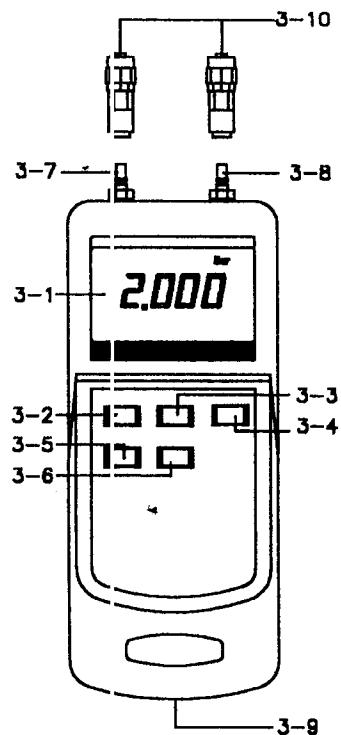

Fig. 1
- 1) Power on the meter by pressing the " Power Off/On Button " (3-2, Fig. 1).
- 2) Select the desired temperature units (mbar, psi, Kg/cm², mm Hg, inch Hg, meter H₂O, inch H₂O, Atmosphere) by pushing the " Unit Button " (3-6, Fig. 1).
Adjust the display reading to zero value by pushing the " Zero Button " (3-4, Fig. 1)
- 4) Install the measuring pipe to " Plug/quick coupler " (3-10, Fig. 1).
Connecting the pipe along the " Plug " (3-10, Fig. 1) to
- a. " *P1 input socket* " (3-7, Fig. 1) only
- b. " *P2 input socket* " (3-8, Fig. 1) only
- * During the measurement, pressing the " Hold Button " (3-3, Fig. 1) will freeze the measured value & the LCD will show " HOLD " symbol.
- * The DATA RECORD function displays the maximum and minimum readings. To start the DATA RECORD function, press the " MAX./MIN. Button " (3-5, Fig. 1) once. " REC " symbol will appear on the LCD display.
- (a) Press the " MAX./MIN. Button " (3-5, Fig. 1) once, the " Max " symbol along with the maximum value will appear on the display.
To de-activate this feature, Select the memory record function during measurement, by pressing the "MAX./MIN. Button" (3-5, Fig. 1).
- 2) Slide the Battery Cover (3-9, Fig. 1) away from the instrument and remove the battery.